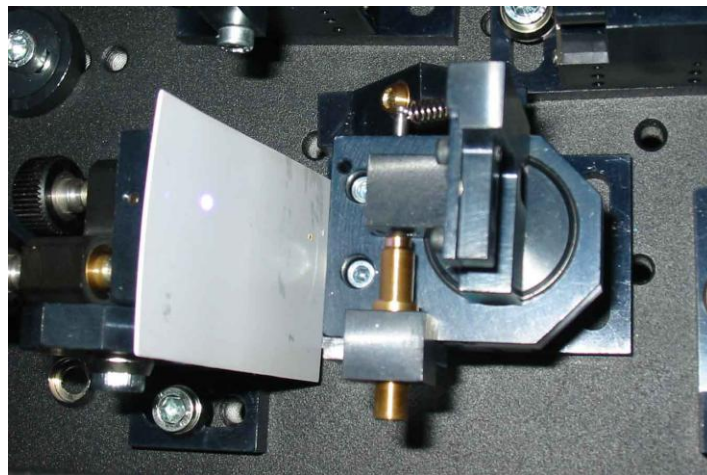

Fig.4.
- 4) **Block the beam between the crystal THC and spherical mirror CM1! (Fig.4).**